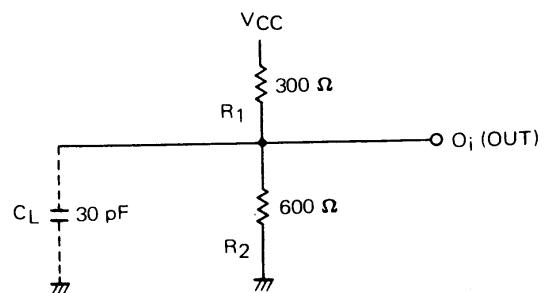

Fig. 1
- Note 1.** Output Load: See Fig. 1.
Note 4. C_L in Fig. 1 includes jig and probe stray capacitances.